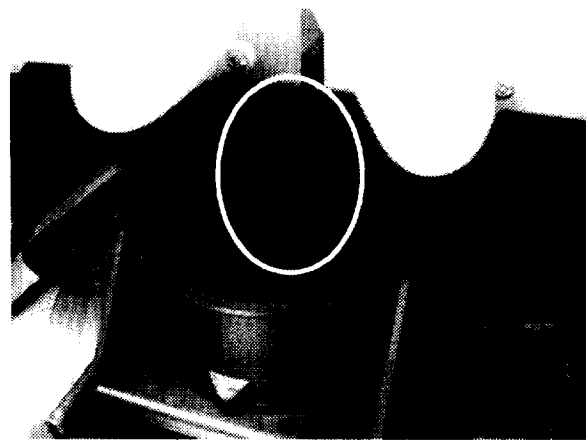

Figure 7
- a. Remove the tubing from the top of the brewer (figure 7).